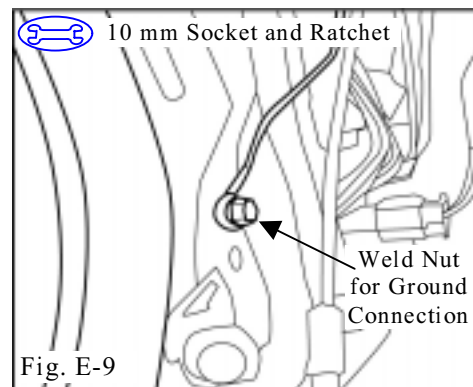

Fig. E-9
14. Locate the unused weld nut at the lower cowl panel as shown. (Fig. E-9)